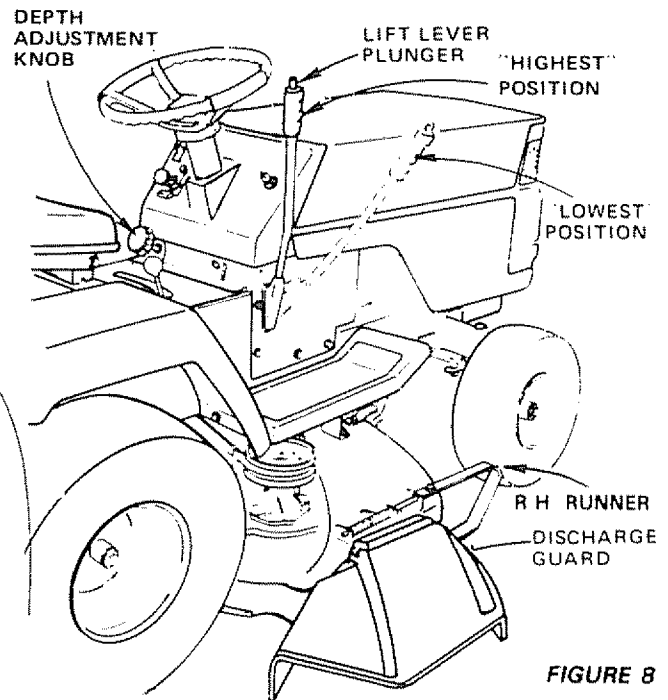

FIGURE 8
- a. Move the attachment lift lever to the high position and adjust height of cut to mid range See Fig 8
- b. Use the runner on the R.H. side as a guide; the blade cuts approximately an inch outside the runner (Fig. 8).